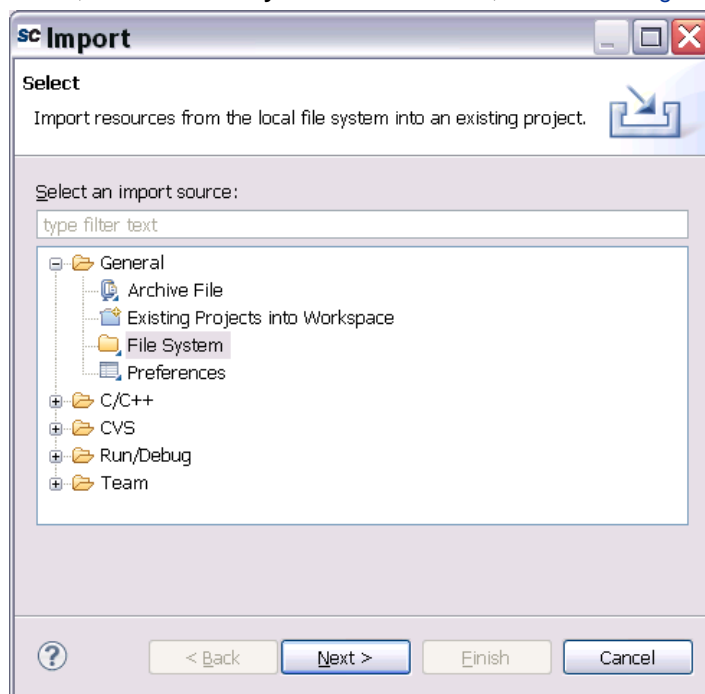

Figure 20 Select an Import Source
- Click **General**, select the **File System** and click **Next**, as shown in Figure 20.